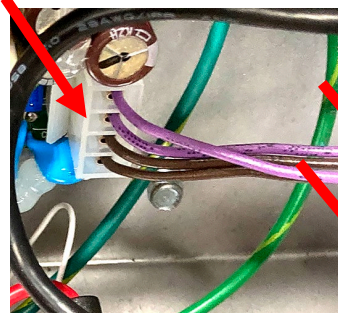

Figure 33
30. Reconnect the power harness disconnected from the power supply in step 17 (see Figure 33).